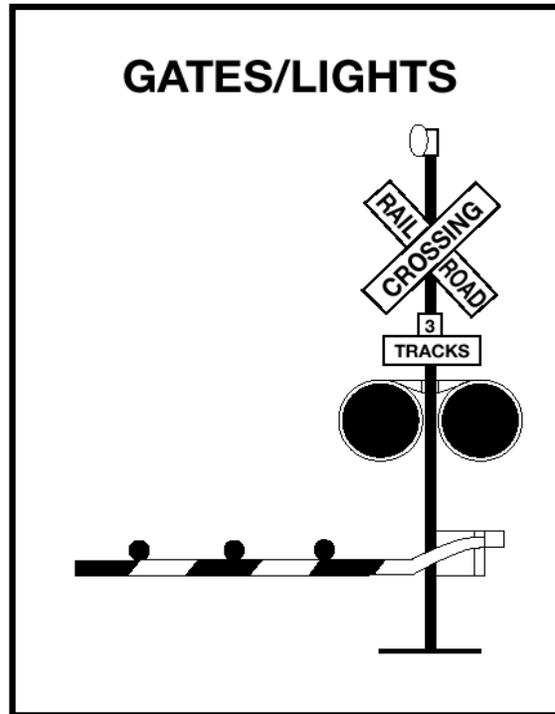

Figure SB.8
**Flashing Red Light Signals.** At many highway-rail grade crossings, the crossbuck sign has flashing red lights and bells. When the lights begin to flash, stop! A train is approaching. You are required to yield the right-of-way to the train. If there is more than one track, make sure all tracks are clear before crossing. **See Figure SB.8.**
**Gates.** Many railroad-highway crossings have gates with flashing red lights and bells. Stop when the lights begin to flash and before the gate lowers across the road lane. Remain stopped until the gates go up and the lights have stopped flashing. Proceed when it is safe. If the gate stays down after the train passes, do not drive around the gate. Instead, call your dispatcher. **See Figure SB.8.**